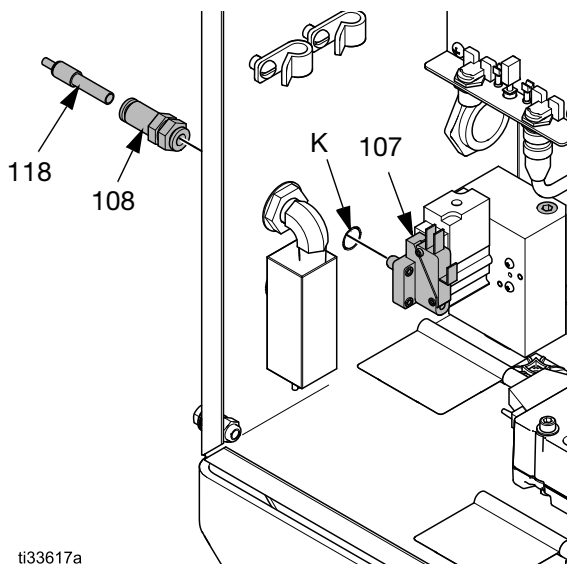

FIG. 16: Install Pressure Switch Inside Electrical Control Box
NOTE: Each gun flush box includes one pressure switch (PS). Install the pressure switch as shown in FIG. 16 for the ProMix PD2K.
2. Knock out (K) on the side of the electrical control box.
3. Position pressure switch (107) as shown. Install bulkhead fitting (108) to secure the switch to the side of the panel. Install tubing adapter (118) in the bulkhead fitting.